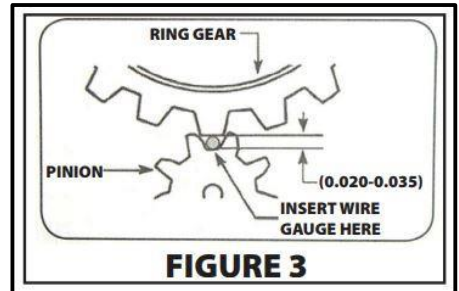

FIGURE 3
- GEAR MESH:** Carefully engage the starter pinion into the ring gear by either prying the gear out or supplying 12V to only the ignition post of the solenoid (Do not hold this voltage more than 10 seconds at a time). This clearance should be 0.020-0.035 (Figure 3), if the gear mesh is too tight install supplied block shims one at time until desired clearance is achieved. NOTE: The starter gear may stay engaged until the engine fires, DO NOT add shims in response to this. In some cases the gear mesh may be too loose without shims installed, in these cases the starter mounting block can be machined accordingly until correct tolerance is achieved.